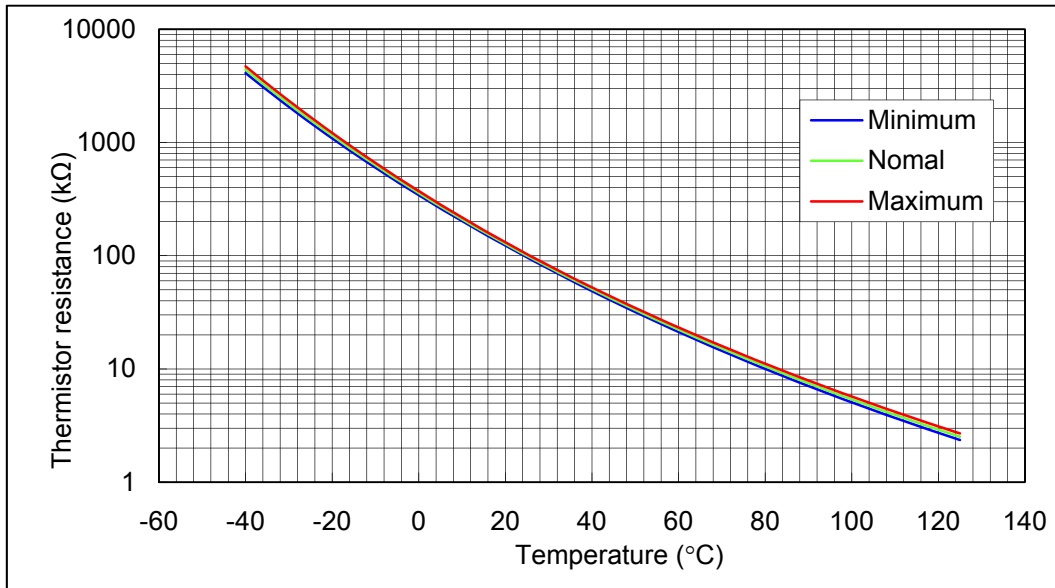
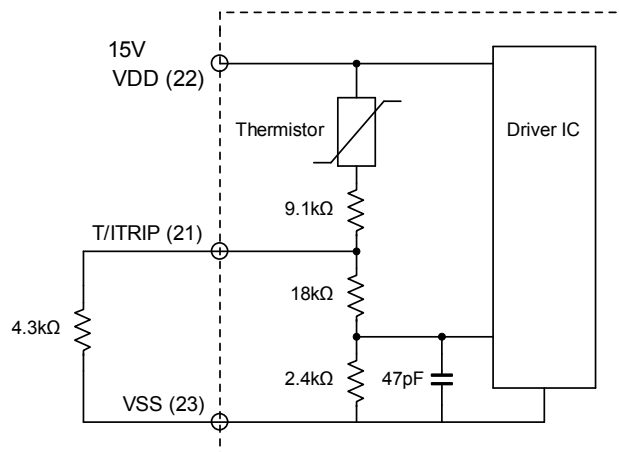

Fig. 10 Variation of thermistor resistance with temperature
Fig. 12 Sample application circuit for temperature monitoring
7. Inside the IPM, a thermistor used as the temperature monitor is connected between VDD terminal and T/ITRIP terminal, therefore, an external pull down resistor connected between the T/ITRIP terminal and VSS terminal should be used. The temperature monitor example application is as follows, please refer the Fig.10, Fig.11, and Fig.12 below.